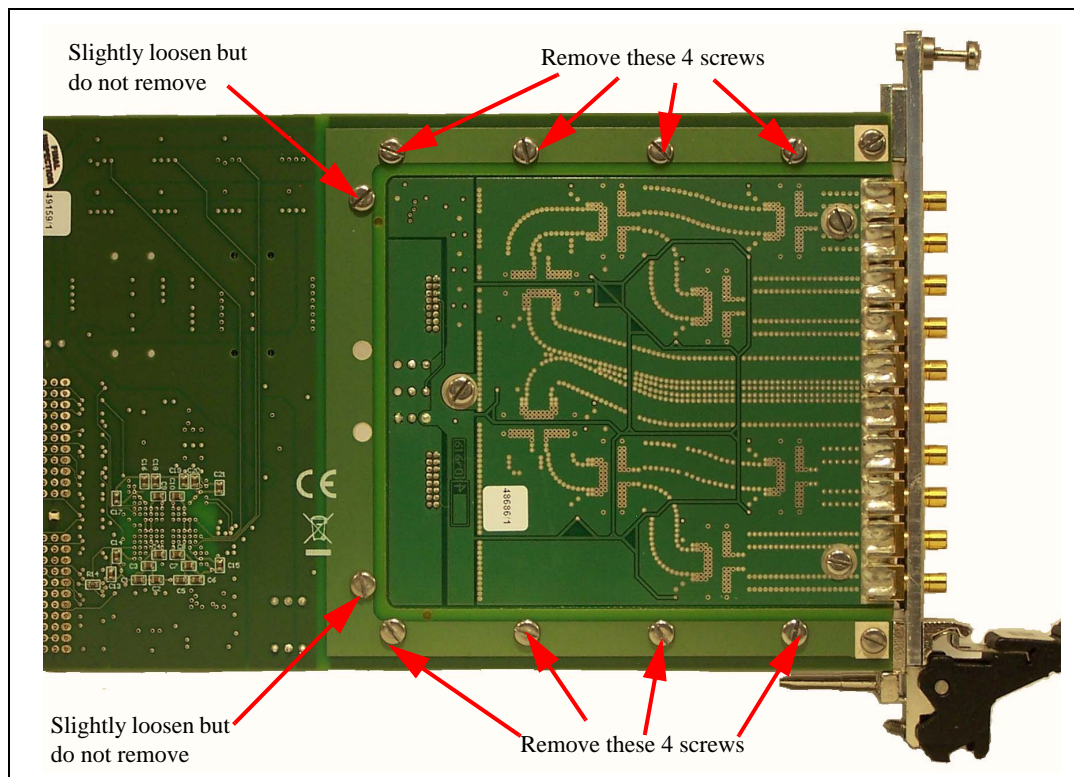

Figure 43 Remove screws for bottom daughter board
Please read all disassembly steps prior to starting the disassembly. Refer to Figure 43 and Figure 44 with the following disassembly steps.
- 4 On the back side of the module, remove the eight screws indicated in Figure 43. These eight screws release the two Shield Brackets. Note, do not remove two back screws (you may need to slightly loosen them). Rotate the two Shield Brackets away from the module as shown in Figure 44.